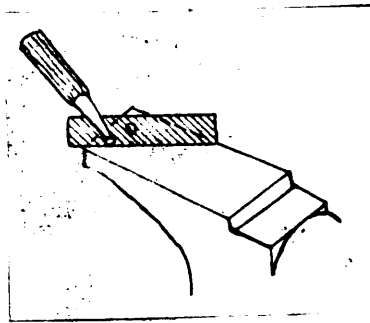

Figure 3.
7. Place the stock over the pritchel hole and drive the burr or slug out. (Figure 3).
8. Place the stock over the hardie or pritchel hole and drive the punch through from each side alternately until the hole is the desired size. (Figure 3). Always keep the metal at a good working temperature, re-heating as may be necessary.